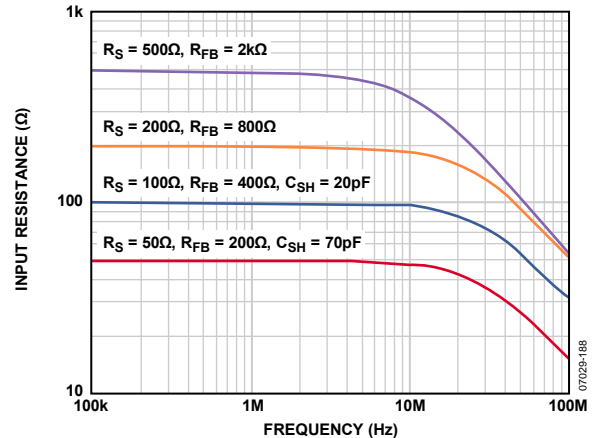

Figure 39. R_{IN} vs. Frequency for Various Values of R_{FB} (Effects of R_S and C_{SH} Are Also Shown)
The bandwidth (BW) of the LNA is greater than 100 MHz. Ultimately, the BW of the LNA limits the accuracy of the synthesized R_{IN} . For $R_{IN} = R_S$ up to about 200 Ω , the best match is between 100 kHz and 10 MHz, where the lower frequency limit is determined by the size of the ac-coupling capacitors, and the upper limit is determined by the LNA BW. Furthermore, the input capacitance and R_S limit the BW at higher frequencies. Figure 39 shows R_{IN} vs. frequency for various values of R_{FB} .